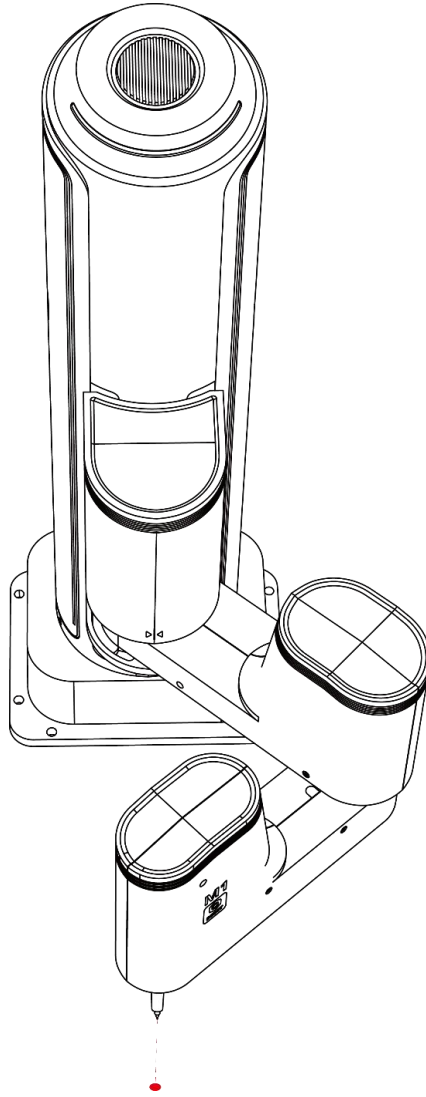

Figure 7.29 Calibration with lefty hand orientation
Step 7 Jog the Dobot M1 by hand to the same point in **Step 5** with lefty hand orientation, as shown in Figure 7.29.